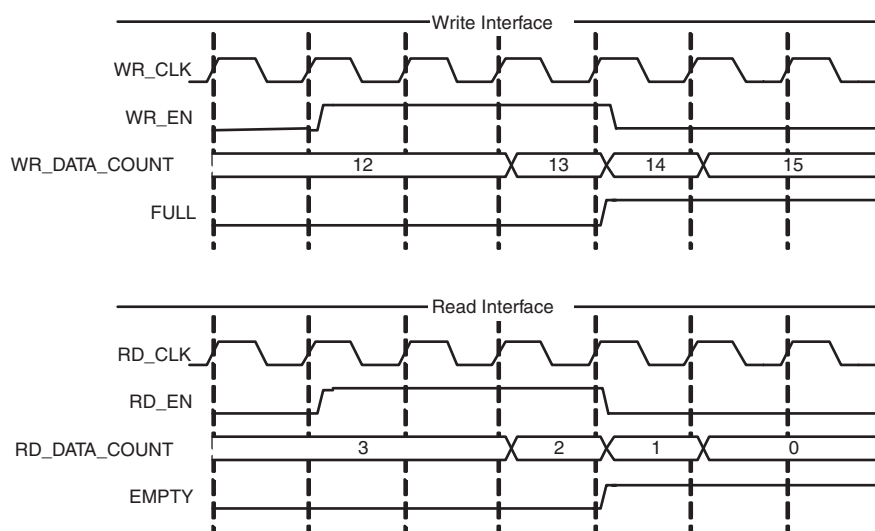

Figure 4-16: Write and Read Data Counts for FIFO with Independent Clocks
Figure 4-16 shows write and read data counts. When WR\_EN is asserted and FULL is deasserted, WR\_DATA\_COUNT increments. Similarly, when RD\_EN is asserted and EMPTY is deasserted, RD\_DATA\_COUNT decrements.
**Note:** In the first part of Figure 4-16, a successful write operation occurs on the third rising clock edge, and is not reflected on WR\_DATA\_COUNT until the next full clock cycle is complete. Similarly, RD\_DATA\_COUNT transitions one full clock cycle after a successful read operation.